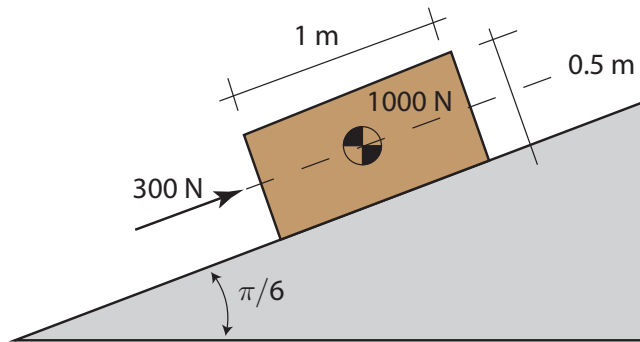

Figure 17: Problem 17.
17. A 300 N force acts on a 1000 N crate that rests on an inclined plane; see Fig. 17. The coefficient of static friction between the crate and the plane is $\mu_0 = 0.25$ and the coefficient of kinetic friction is $\mu = 0.2$. Determine if the crate is in a state of static equilibrium and find the resultant force that the plane applies to the crate (including its location).